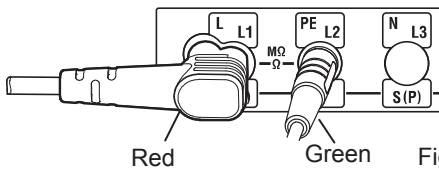

Fig.9-2
- (4) Insert the test leads to the L and PE terminals on KEW 6516/ 6516BT respectively as shown in Fig. 9-2.